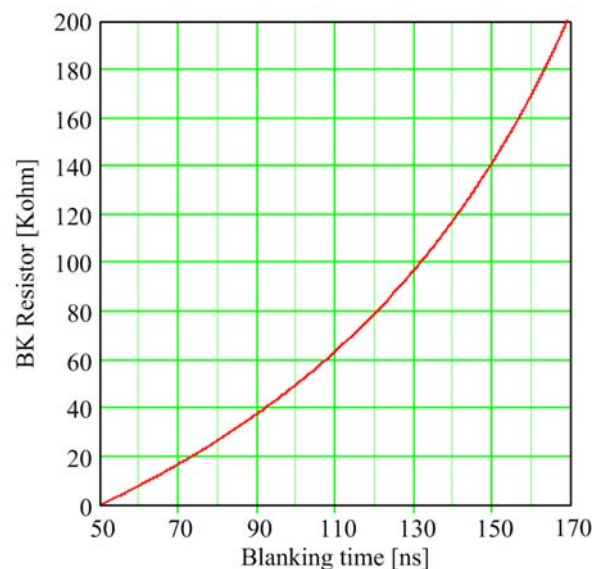

Figure 2: Blanking time vs. BK resistor value
Connecting an external resistor ( $R_{BK}$ ) between the BK pin and ground will increase the blanking time as shown in Figure 2.
Connect the blanking timer pin (BK) to GND to program the device for the fastest reverse comparator response time of 160ns typical. To increase the blanking time, connect the BK pin to GND via a resistor to avoid the fault response to short reverse current pulses. Refer to Figure 2 in the reverse comparator functional description for resistor values versus the reverse blanking time.